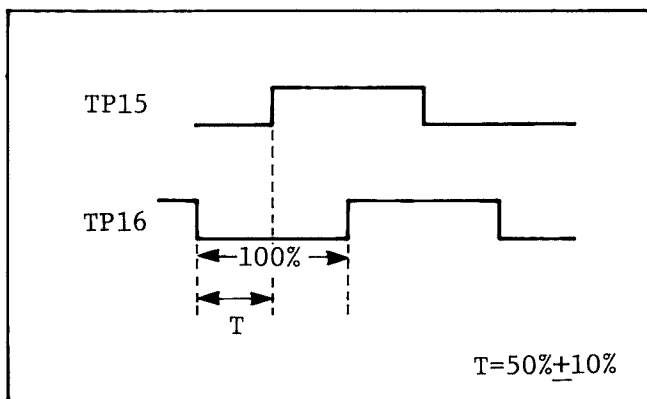

Fig. 14-2. Adjustment of Photo Encoder
3. Slightly loosen the screw (A) and insert the gear driver into hole (B).
4. Adjust the PHOTO ENCODER so that the two waveforms become as shown in Fig. 14-2.